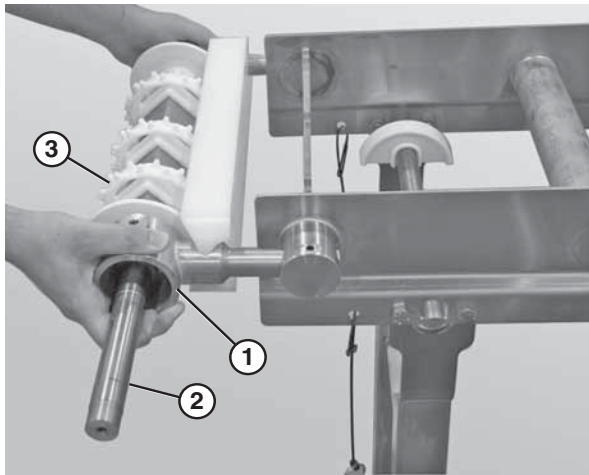

Figure 73
- Slide the drive tail assembly out of the take up blocks (Figure 73).
- Slide the motor support bracket (Figure 73, item 1) off the drive spindle (Figure 73, item 2).
- Remove the sprockets (Figure 73, item 3).